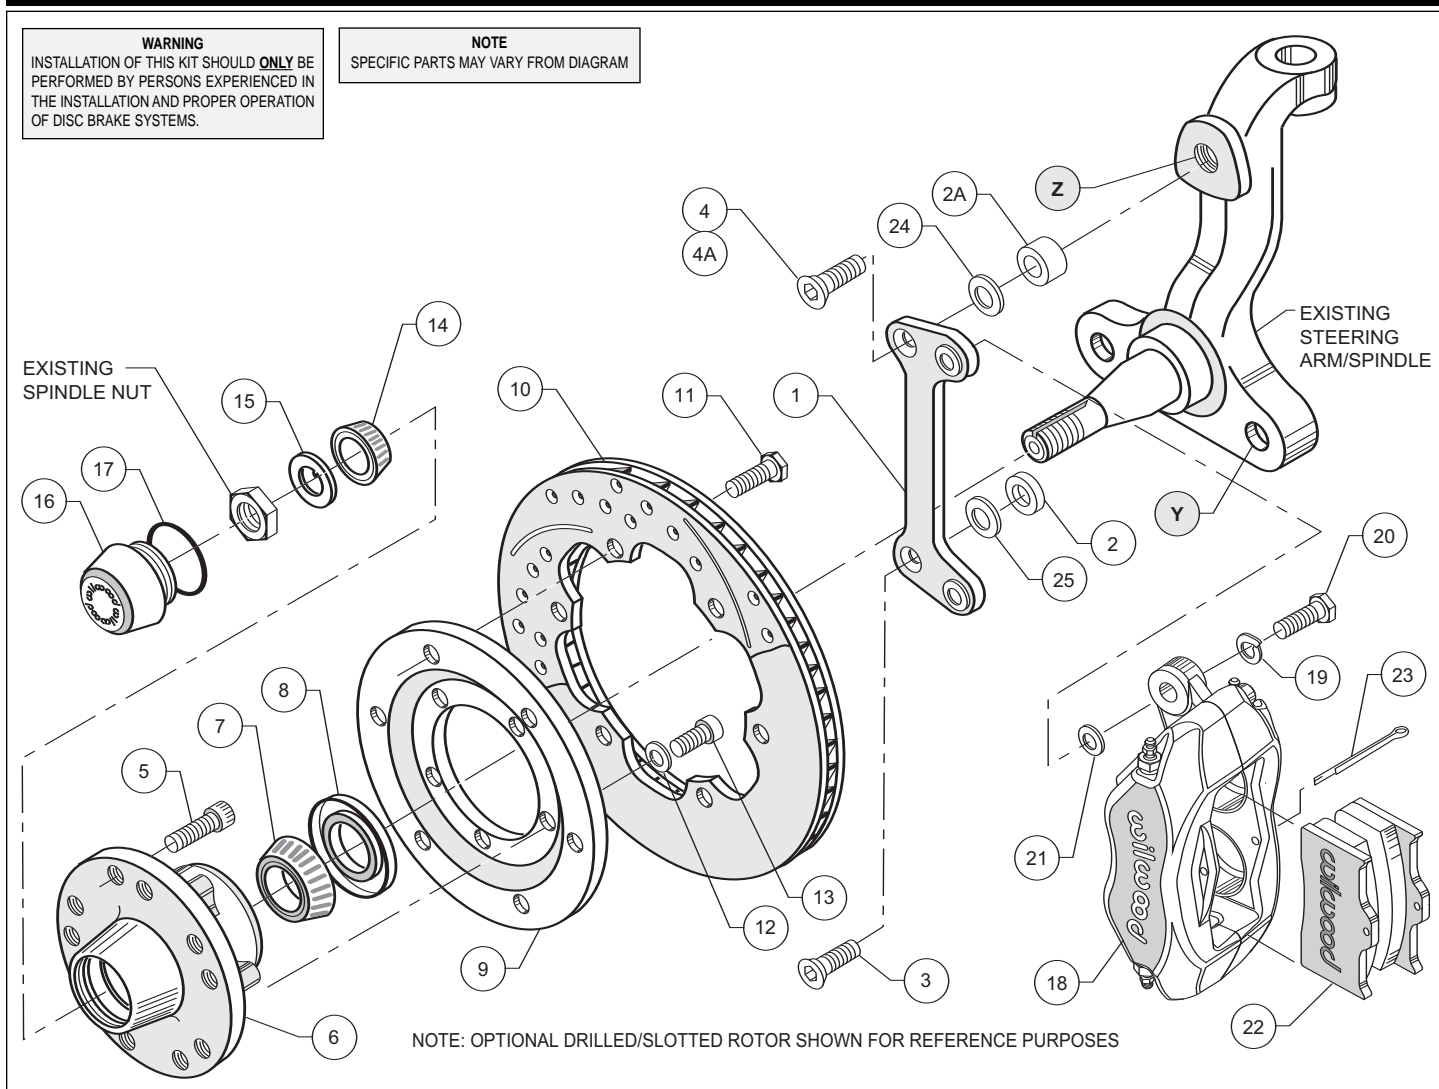
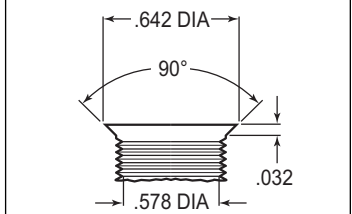
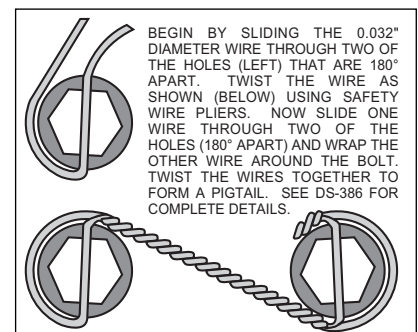

Figure 1. Typical Installation Configuration
Figure 3. Drill and Tap Detail
Figure 4. Safety Wire Diagram
•**NOTE:** 1964-66 spindles may require the following modifications (reference Figure 1 and Figure 3): Top anchor pin hole (Z) must be drilled and tapped to the dimensions as outlined in Figure 3. Bottom rear steering arm bolt hole (Y) in the spindle and steering arm must be enlarged to .50" by drilling. A 1/2-20 backing nut (not supplied in kit) will need to be acquired to torque bracket / steering arm bolt (supplied in kit).
•Apply red *Loctite*® 271 to bolt threads (3 and 4, or 4A for disc spindle application) before assembly of the caliper mounting bracket (1). Mount bracket (1) to dust face plate of spindle using the bottom bolt (3) while positioning spacer (2) between bracket and spindle face, finger tighten only. Install the upper bolt 4 (or, for disc brake spindle, use 4A with spacer 2A positioned between bracket and top hole of spindle face), torque to 120 ft-lb. Torque bolts (3) to 77 ft-lb. **NOTE:** Be sure the heads of the bracket (1) insert nuts are facing outward toward the wheel. **NOTE:** Because of a tolerance variation among spindles, it may be necessary to install a shim washer (24 and/or 25) between the spacers (2 and/or 2A) and the bracket (1) in order to square the bracket to the rotor.
•Install wheel studs (5) into the hub (6). Torque to 77 ft-lb. **NOTE:** There are two five lug patterns in the hub (5 x 4.50 and 5 x 4.75). Make sure of the correct hole pattern for the correct wheel application before installing studs into hub.
•Pack the large inner bearing cone (7) with high temperature disc brake bearing grease (available from your local auto parts store) and install into the backside of the hub (6).
•Install the grease seal (8) by pressing into the backside of the hub (6).
•Attach rotor adapter plate (9) to rotor (10) using bolts (11). Torque bolts (11) to 180 in-lb. Safety wire bolts (11) using standard 0.032 inch diameter stainless steel safety wire as shown in Figure 4. Please refer to Wilwood's data sheet DS-386 (available at www.wilwood.org/ds386.pdf) for complete safety wire installation instructions. **NOTE:** Dished side of adapter plate (9) should face hub (6). The mounting tabs on the rotor (10) should face toward the hub as well and line up with the holes on the adapter plate (9).
•Mount the adapter/rotor assembly (9 and 10) to the hub (6) using lock washers (12) and bolts (13). Torque bolts (13) to 22 ft-lb. Safety wire bolts (13).
•Pack the small outer bearing cone (14) with high temperature disc brake bearing grease and install into front of hub (6). Slide the hub/rotor assembly (6 and 10) with outer bearing cone (14) onto the spindle. Secure using spindle washer (15), stock adjusting nut and nut locking device. Adjust bearings per Original Equipment Manufacturer (OEM) specifications.
•Install the dust cap (16) onto the hub (6). Friction created by the o-ring (17) on the dust cap (16) keeps it from unscrewing. The O.D. of the existing spindle washer may be larger than the I.D. of the dust cap (16) not allowing it to seat against the hub face. Some grinding on the washer O.D. may be necessary to clear the I.D. of the dust cap (16).
•**NOTE:** Please reference the caution statement at the beginning of the assembly instructions. With the bleed screws pointing up, mount the caliper (18) onto the caliper bracket (1) using lock washers (19), bolts (20) and caliper spacer (21) positioned between caliper and bracket. Finger tighten. View the rotor (10) through the top opening of the caliper (18). The rotor (10) should be aligned in the center of the caliper (18). If not, adjust the caliper (18) by using 0.032 inch thick shims (21) placed between the caliper mounting bracket (1) and the caliper (18). Finger tighten and recheck alignment. Apply red *Loctite*® 271 to bolt threads (20) and torque to 30 ft-lb. Safety wire caliper bolts (20).
•Install the disc brake pads (22) and secure using cotter pin (23).